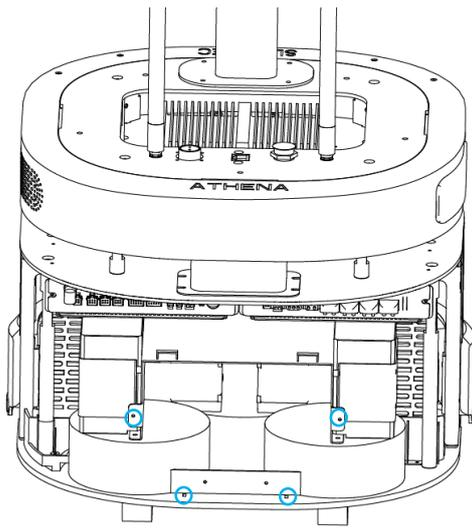
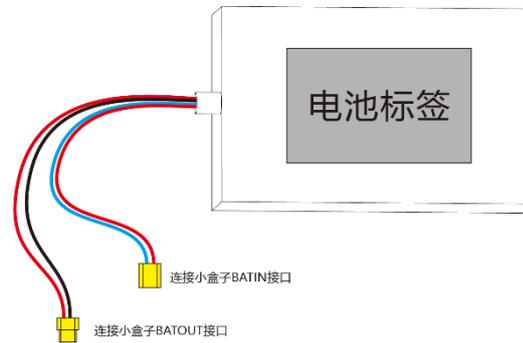

Figure 14
Figure 15
- As shown in Figure 14, unscrew the four blue circled M3*5 screws and remove the battery lid, the battery is shown as in Figure 15.